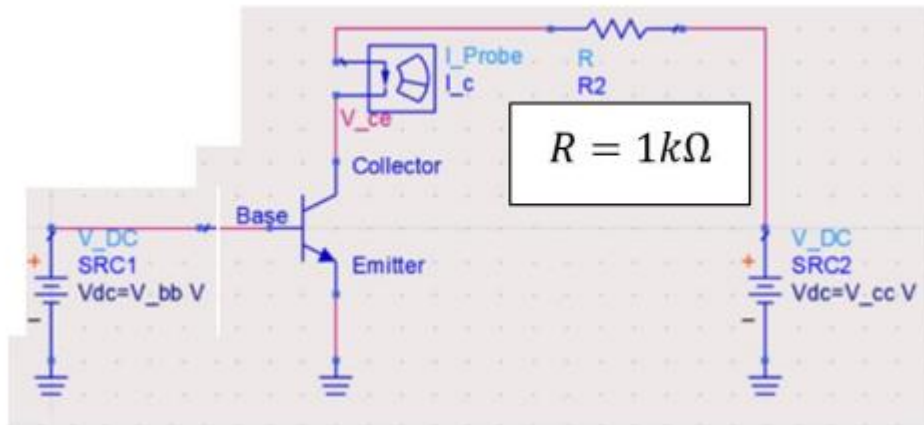

Figure 5: Schematic for Voltage Transfer Characteristic of BJT
- Build the circuit shown in Figure 5. Vary the base-emitter voltage from 0V to 1V in steps of 0.002V and record the collector-emitter voltage and collector current while applying the maximum V_{CC} that was required as part of the DCIV collection.